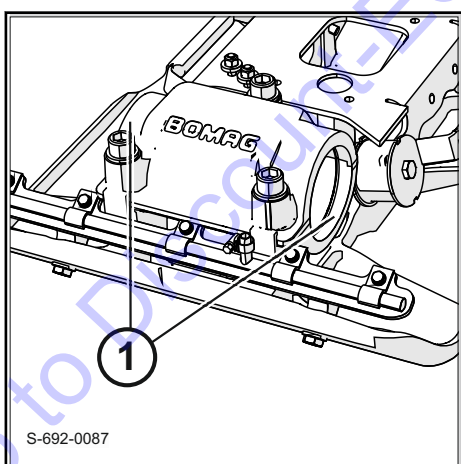

Fig. 88
2. Clean the bearing seat (1) ↪ Fig. 88 and the bearing seat (2) thoroughly with grease solvent (e.g. thinner / brake cleaner).